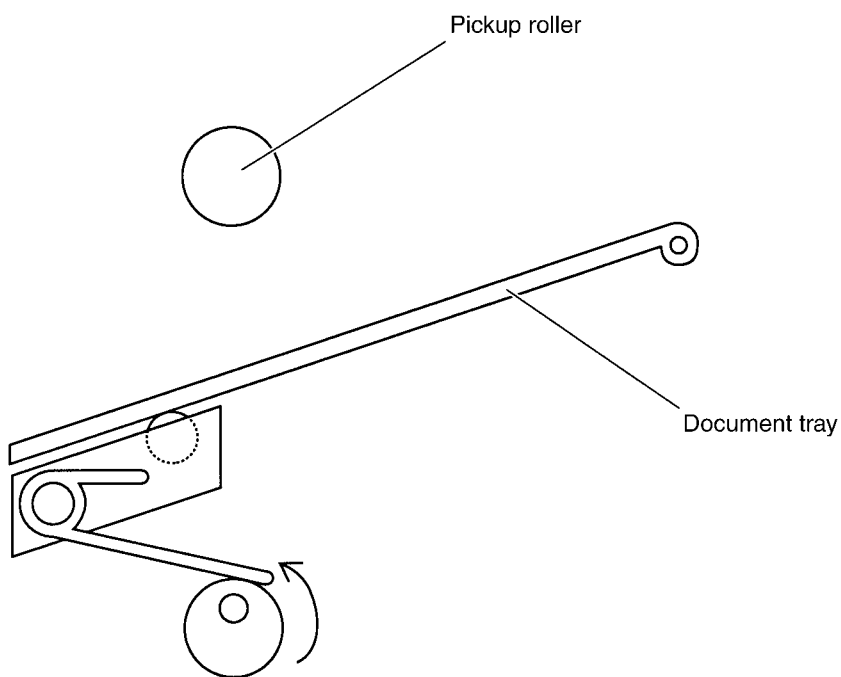

Fig. 3-21
- d. When document tray cam is in condition as shown in Fig. 3-21, the paper can be set.
- f. And when the document tray cam still more rotates in the direction of arrow, the cam rotates until the position as shown in Fig. 3-21, and document tray goes down.